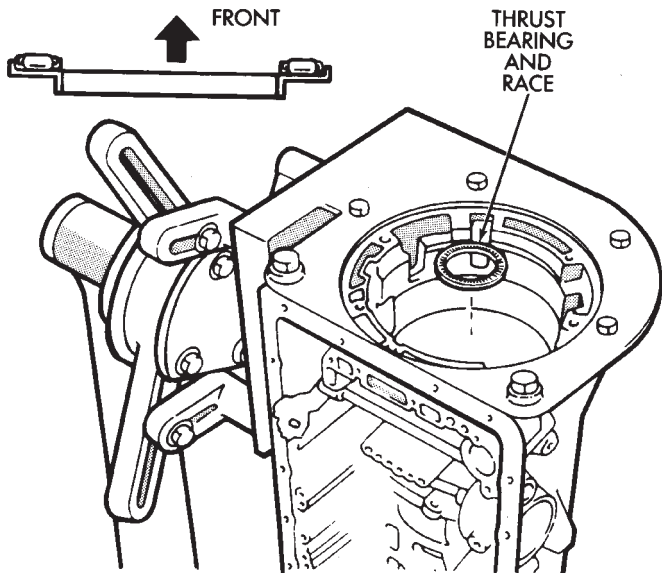

Fig. 3 Installing Thrust Bearing And Race (No. 10)
(6) Coat thrust bearing and race assembly with petroleum jelly and install in case (Fig. 3). Race faces down. Bearing rollers face up.